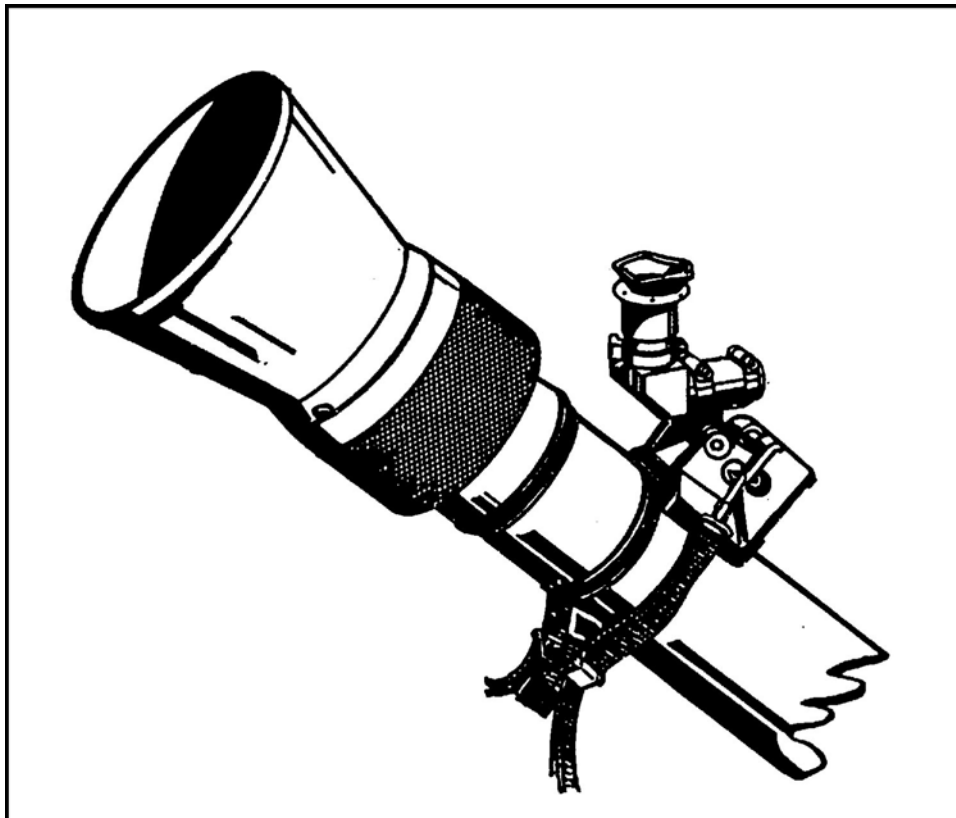

Figure 1. Boresighting With the M45 Boresight
- a. Attach the M45 boresight to the barrel below, touching the upper stop band (Figure 1). Center the cross-level vial by slightly rotating the boresight around the mortar barrel. Slight movements may be made by loosening the clamp screw and by lightly tapping the boresight body. When the bubble is centered, tighten the clamp screw.
- a. Ensure the M45 boresight is still attached to the barrel as shown in Figure 1.